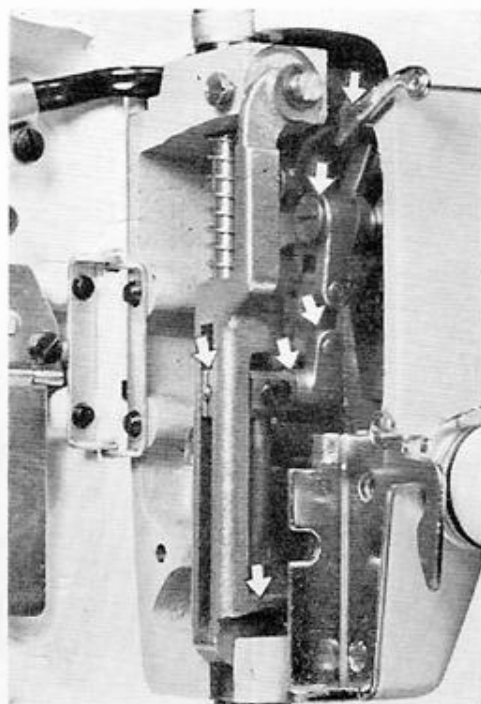

Fig. 32
(2) Where to Oil
- (a) The arrows indicate those parts to be oiled. (Fig. 32, 33 and 34)